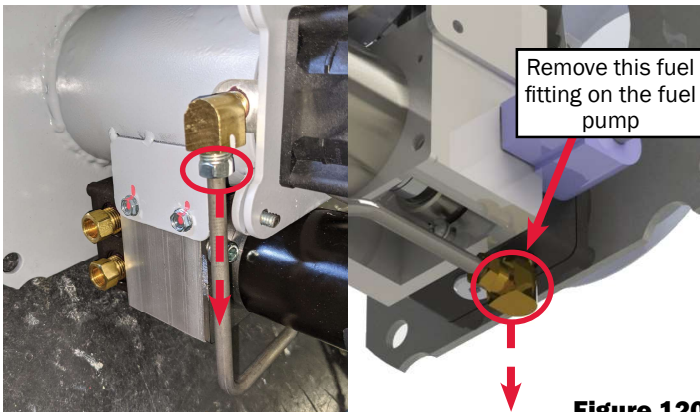

Figure 120
14. Using a $\frac{7}{16}$ " wrench, place and tighten the nut on the fuel fitting to reinstall the fuel line as shown in Figure 120.